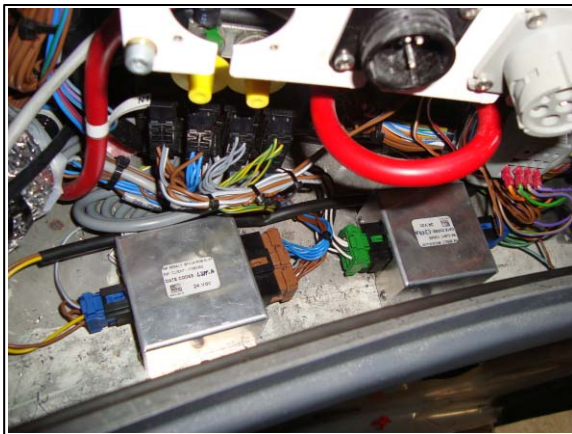
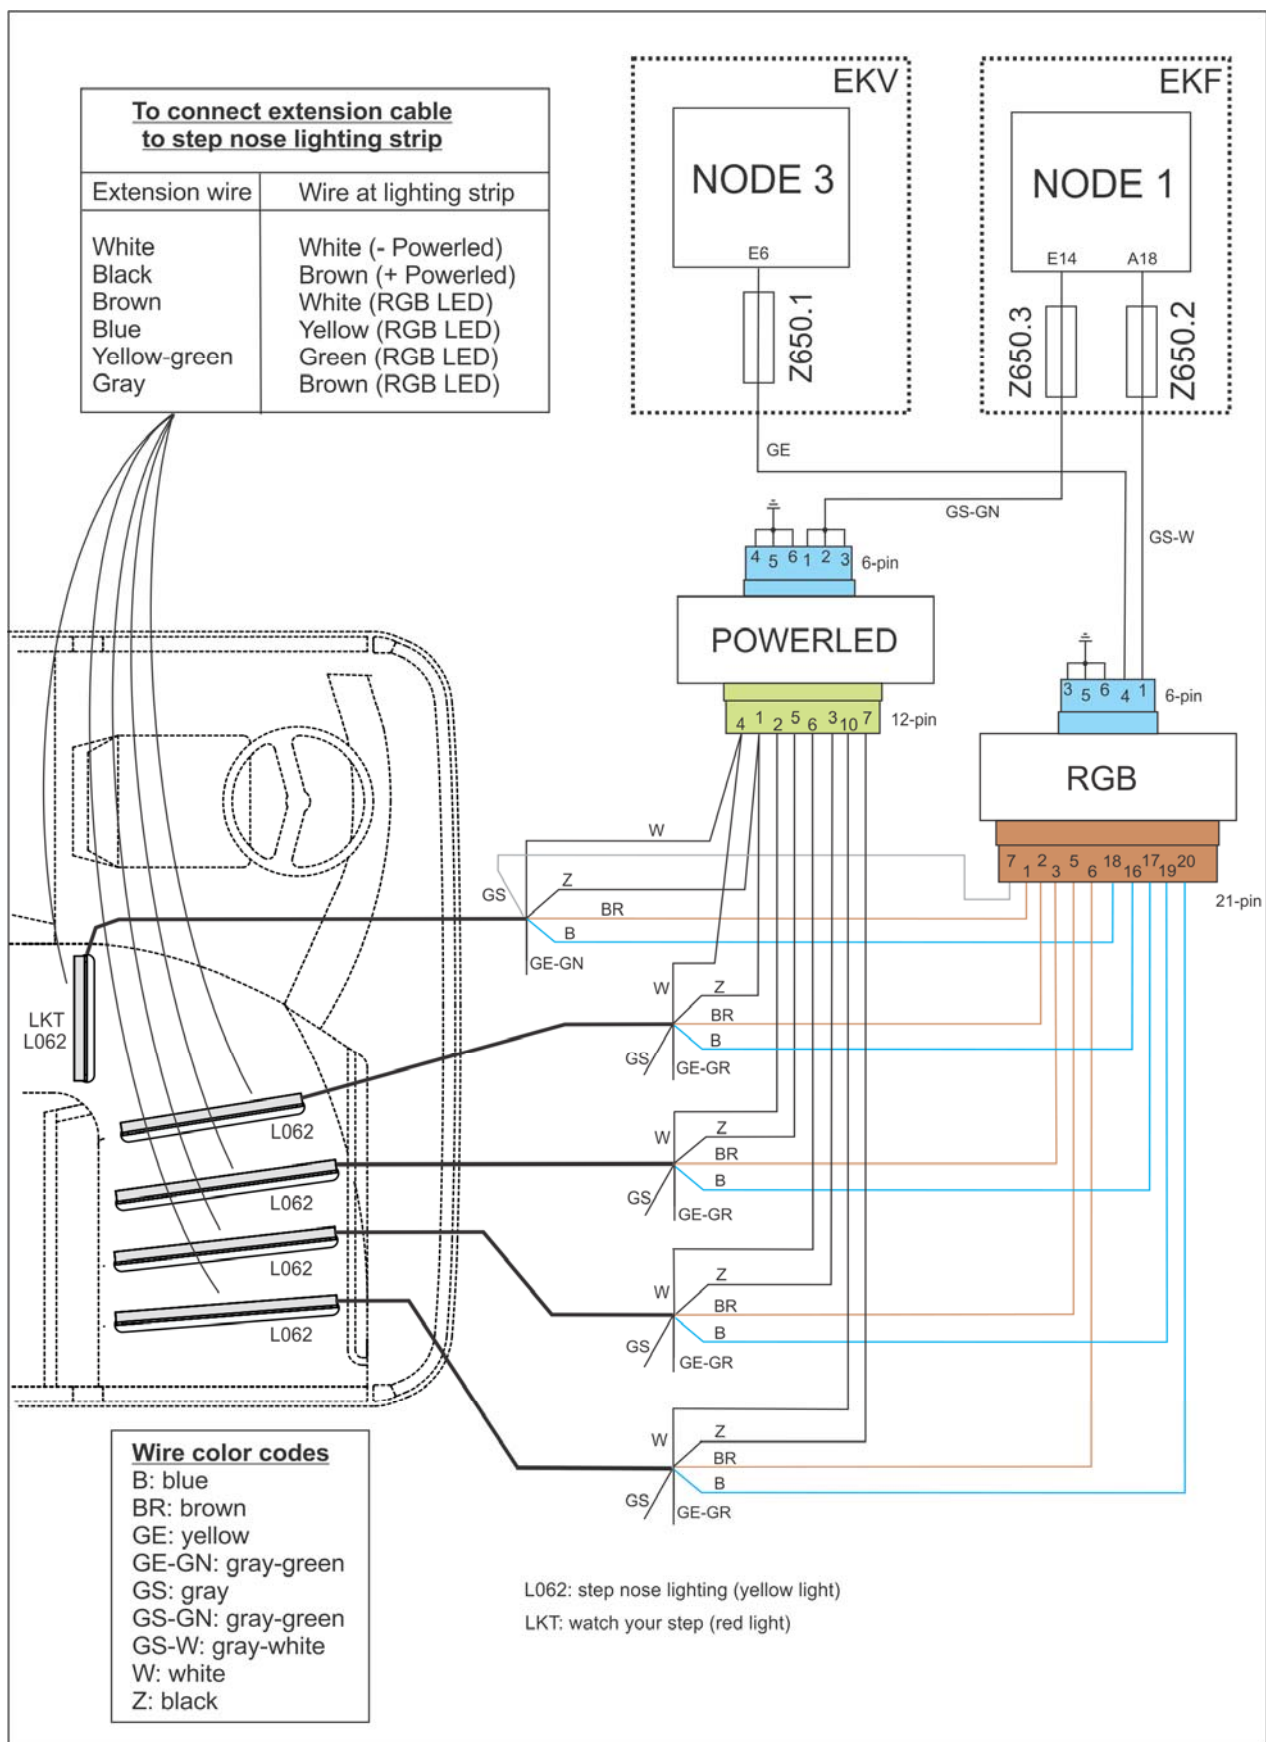

Figure 2: Location of controllers in EKF junction box
Figure 3: Wiring diagram of new installation
- 2) Solder the wires of the new lighting strip to the extension cable as indicated in the upper left corner of figure 3. Provide a durable and watertight connection.
- 4) Connect the wires of the extension cables to the connectors as indicated in figure 3. Connect the connectors to the POWERLED and RGB controllers. Secure the controllers to the bottom of the EKF junction box compartment with two screws (refer to Figure 2).